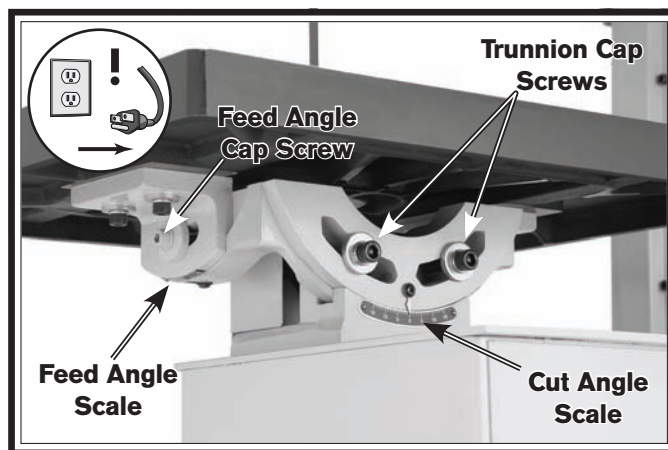

Figure 40. Location of table scales.
3. Using a 6mm hex wrench, loosen the trunnion cap screws (**Figure 40**).